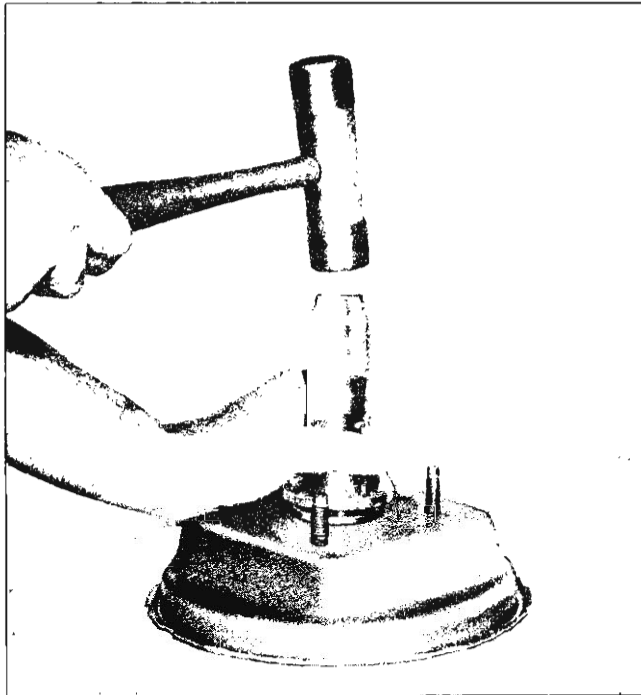

Fig. 20—Installing Piston Bearing Seal
3. Place rear shell on block, to back up plate around center hole, and position bearing seal in center hole. Use Tool J-9540 (fig. 20) to seat seal in recess of rear shell. Tool bottoms against shell when seal is in place.